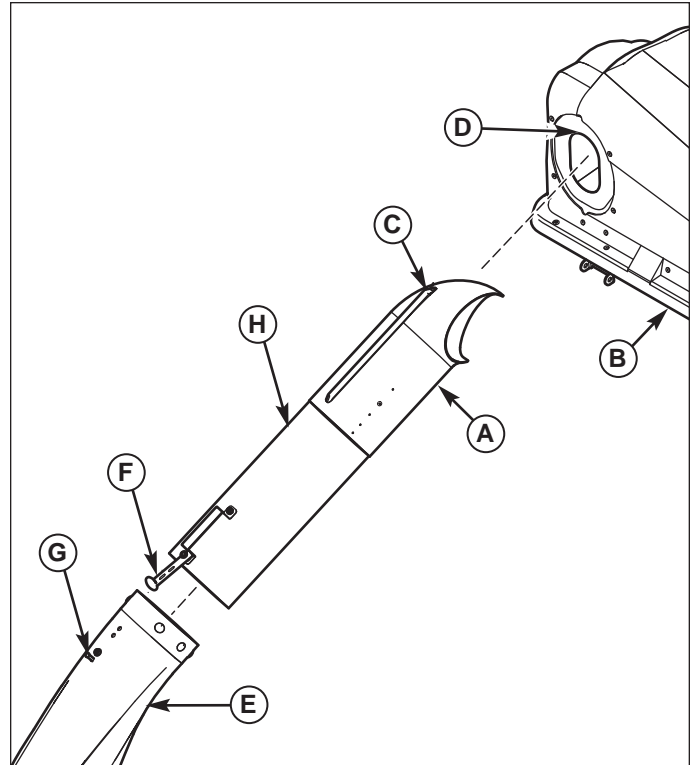

**Figure 7. Install Chute**
1. Install 5/16 x 3/4" carriage bolts (D, Figure 7) with 5/16 push nuts (E) to mower deck as shown.
3. Place the holes of the chute (A) onto carriage bolts (D, installed in step 1), sliding the front edge of the chute under the hinge bracket.
4. Secure knob (C) onto carriage bolt (D) as shown.
5. Secure wing nut (F) onto carriage bolt (D) as shown.